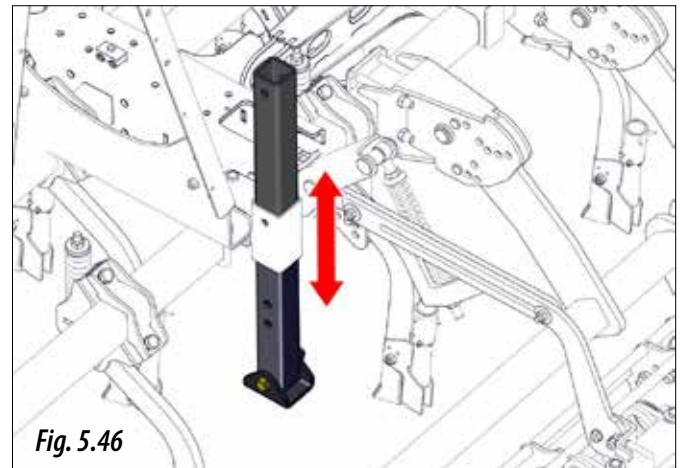

Fig. 5.46
- 2- Move the support leg to the desired position (Fig. 5.46).